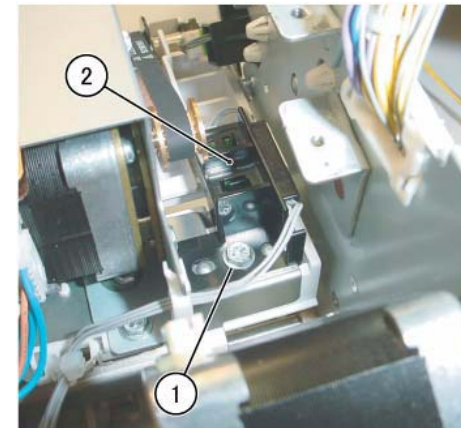

Figure 3 Removing the Front Tamper Home Sensor Assembly (j0fa42286)
8. Remove the Front Tamper Home Sensor Assembly. (Figure 3)